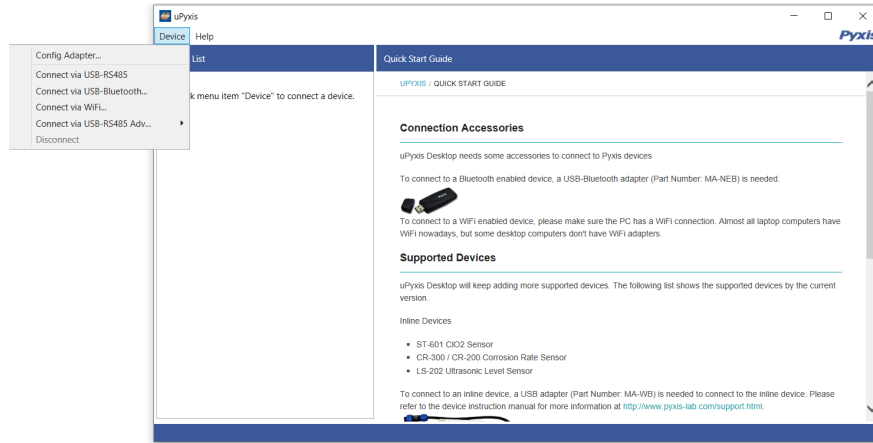

Figure 12.
3. On **uPyxis®** Desktop App, click Device→ **Connect via USB-Bluetooth** (Figure 12).
4. If the connection is successful, the ST-772 Series and its Serial Number (SN) will be displayed in the left pane of the **uPyxis®** window.